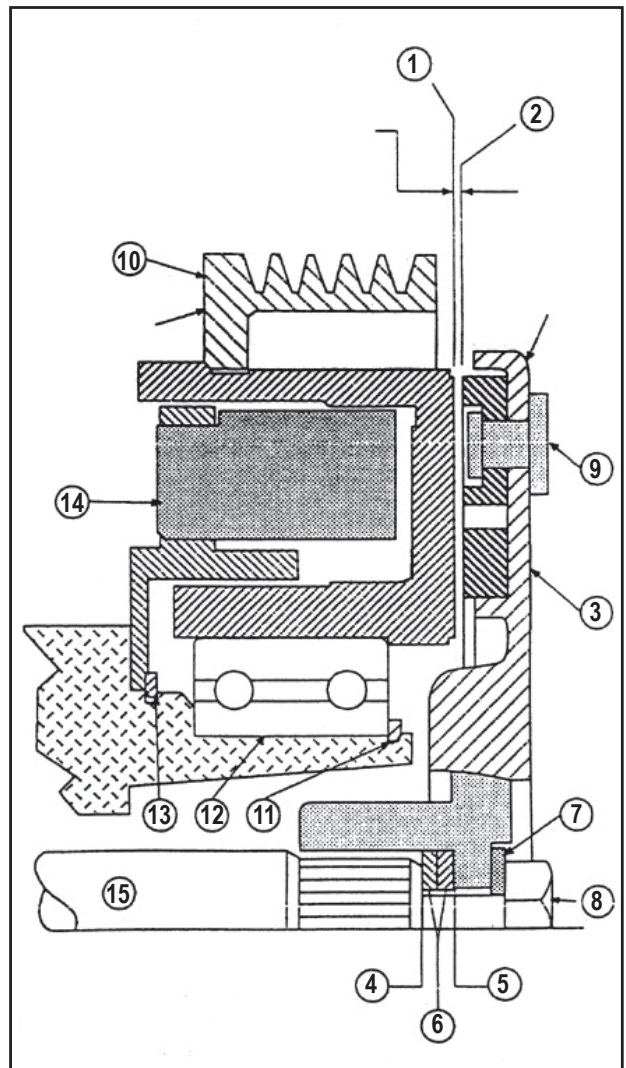
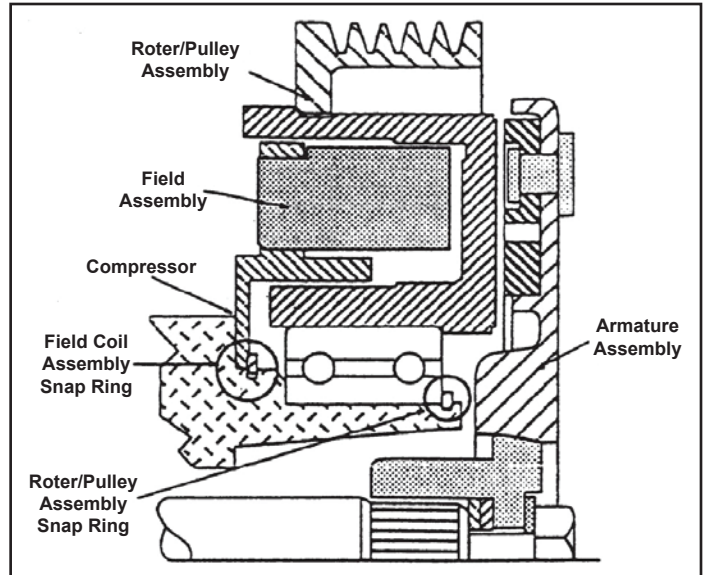
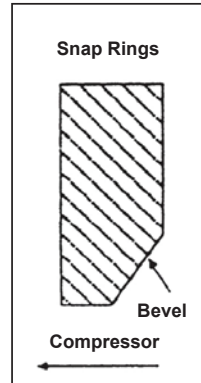
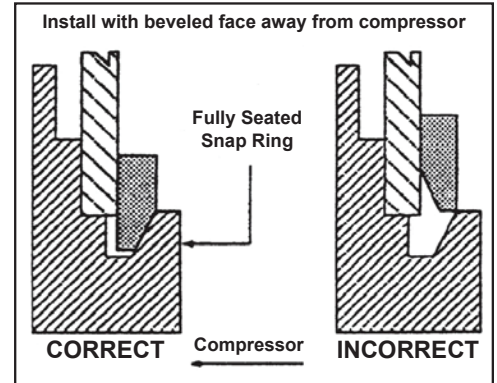

Figure 1. Clutch Components
Figure 2. Location of Clutch Snap Rings
Figure 3. Snap Ring Bevel
Figure 4. Correct and Incorrect Installation
## COMPRESSOR CLUTCH REMOVAL (Refer to figure 1 for clutch diagram)
### Step 2: Removing Hub/Armature Assembly (Shown in figure 1, number 3)
- Remove shall bolt (Shown in figure 1, number 8)
- Remove washer (Shown in figure 1, number 7)
- Remove hub/armature by hand. Clutch has an 8mm threaded hole to use as a jack screw for removal. (Shown in figure 1, number 3)
- Remove shims from the hub/armature assembly. The number of shims can vary. (Shown in figure 1, number 6)
### Step 3: Removing Rotor/Pulley Assembly (Shown in figure 1, number 10)
- Remove rotor/pulley snap ring (Shown in figure 1, number 11)
- Slide rotor/pulley assembly (Shown in figure 1, number 10), off the compressor nose (Shown in figure 1, number 12). If rotor/pulley assembly is hot it will not slide, DO NOT FORCE! Allow the clutch to cool and then proceed.
### Step 4: Removing Field Coil Assembly for all compressors except Ford FX15 (Shown in figure 1, number 14)
- Remove field coil snap ring (Shown in figure 1, number 13), retaining the field coil.
- Slide the field coil (Shown in figure 1, number 14), off the compressor housing.
### Step 5: Removing Field Coil Assembly for Ford FX-15 only (Shown in figure 1, number 14)
- Insert two pry tools between the rear of the field shell (Shown in figure 1, number 14), and the compressor housing. These tools should be spaced 180 degrees apart. Do not locate pry tool on terminal connector.
- Gently pry the field coil (Shown in figure 1, number 14), off the compressor housing.
- Check mounting surfaces (Shown in figure 1, number 12), for nicks, burrs and scratches. See figure 1. Smooth with a file or emery cloth if necessary. If severe wear that affects field pilot or rotor bearing fit is evident, the compressor must be replaced.
### Step 2A: Installing the Field Coil for all fields except Ford FX-15 (Shown in figure 1, number 14)
- Align the anti-rotation pin in the back plate of the field coil (Shown in figure 1, number 14), with the hole in the compressor housing. Guide the field coil assembly into the installed position. Make sure that the lead wires are routed directly to the retaining clip on top of the compressor, if applicable.
- With snap ring pliers, spread the field coil snap ring (Shown in figure 1, number 13), and insert it into the groove on the compressor nose. See figure 2. To assure assembly retention, the ring bevel must face away from the compressor. See figure 3 and figure 4.
- Verify that the snap ring is fully seated in the groove around its circumference to assure assembly retention. See figure 4.
### Step 2B: Installing the Field Coil for all Ford FX-15 fields. (Shown in figure 1, number 14)
- Stand the compressor on end with the nose pointing upward. Position the field assembly (Shown in figure 1, number 14), such that the field shell starts to overlap the compressor nose field mounting surface.
### Step 3: Installing the Rotor/Pulley Assembly \(Shown in figure 1, number 10\)
- a. Install the rotor/pulley assembly \(Shown in figure 1, number 10\) onto the compressor \(Shown in figure 1, number 12\). If the rotor/pulley does not slide easily, check the compressor nose for nicks or burrs and remove them. If the rotor/pulley still does not slide on easily, rock the rotor/pulley back and forth by hand until it slides completely onto the compressor \(Shown in figure 1, number 12\).
- b. Make sure there is no interference between the field assembly \(Shown in figure 1, number 1\) or leadwires and the rotor/pulley \(Shown in figure 1, number 10\).
- c. With snap ring pliers, spread the rotor/pulley snap ring \(Shown in figure 1, number 11\) and insert it into the groove on the compressor nose per figure 1. To assure assembly retention, the ring bevel must face away from the compressor. See figure 3 and figure 4.
- d. Verify that the snap ring is fully seated in the groove around the circumference to assure assembly retention. See figure 4.
### Step 4: Installing the Hub/Armature Assembly \(Shown in figure 1, number 3\)
- a. Slide the Armature assembly \(Shown in figure 1, number 3\), onto the compressor shaft \(Shown in figure 1, number 15\).
- b. Set the rotor/pulley \(Shown in figure 1, number 1\) to hub/armature \(Shown in figure 1, number 2\) air gap to .018 to .030 inches by adding or removing shims \(Shown in figure 1, number 6\). Measure using a feeler gauge at 3 locations 120 degrees apart. See figure 1. Should a used clutch be installed, set the rotor/pulley \(Shown in figure 1, number 1\) to hub/armature \(Shown in figure 1, number 2\) airgap to .013 to .025 inches.